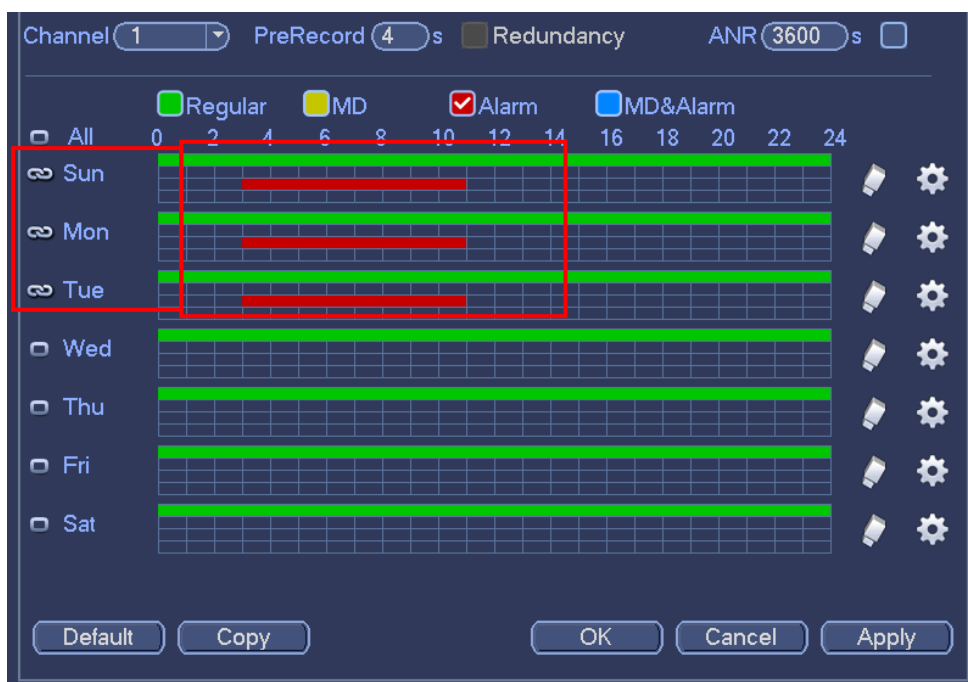

Figure 4-47
- Please draw manually to set record period. There are six periods in one day. See Figure 4-47.